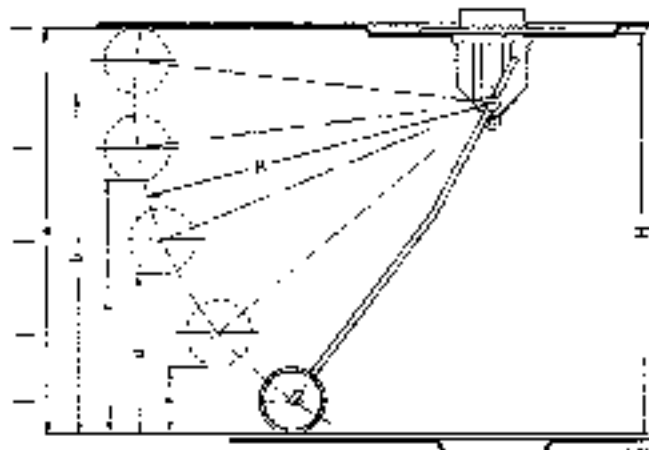

Fig. 47-3/1
2. Drill a 5 mm \varnothing hole into both the front and rear second corrugation at a distance $a = 170$ mm from the left side of the fuel tank (Fig. 47-3/2).
4. Solder the vent lines (2) and (3) to the corrugations and lay them along the breathing line (4) (Fig. 47-3/2).